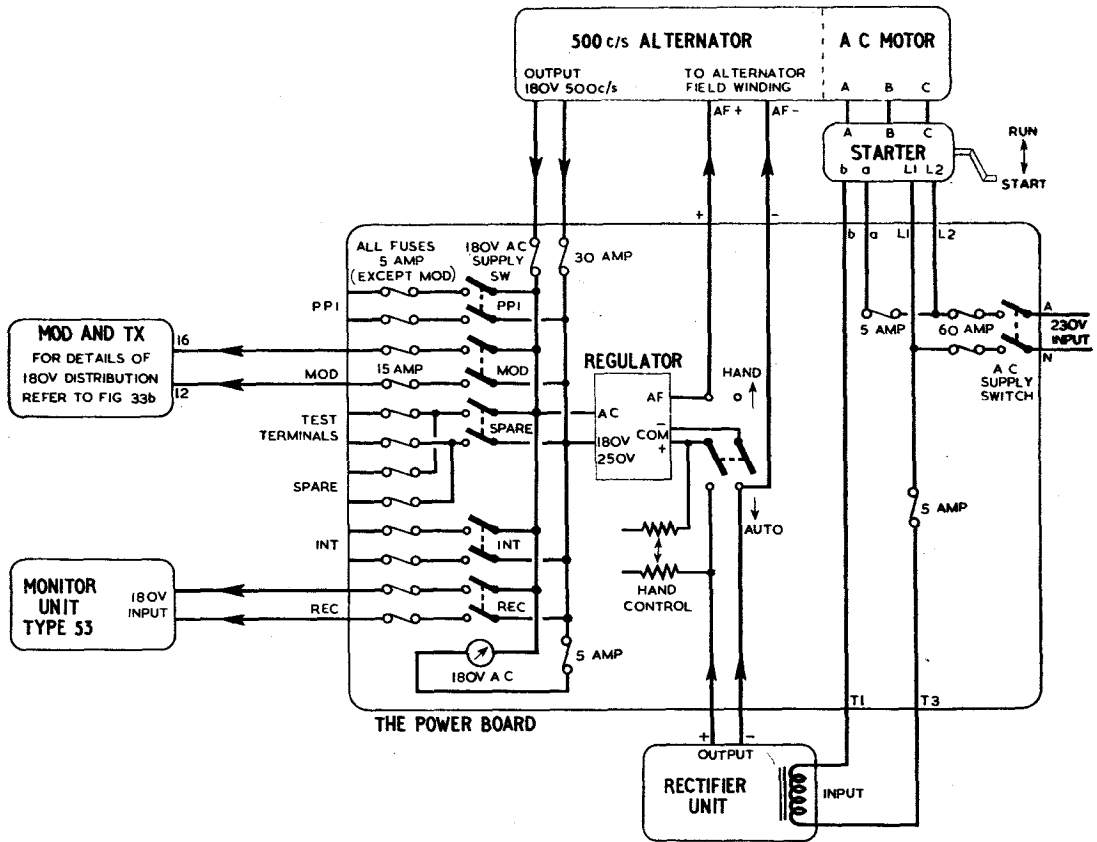

Fig. 32. 180V 500c/s power supply : wiring of power board
96. The internal wiring of the power board is shown in fig. 32; fig. 33 shows the distribution to the TR.3561.